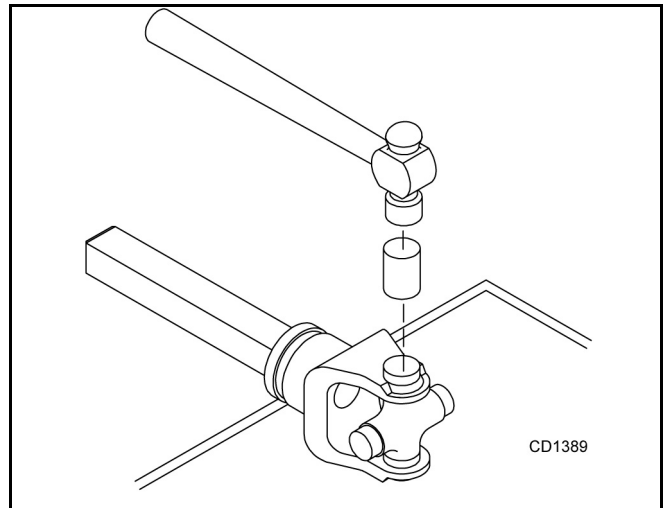

Figure 32.
3. Seat cups by placing a drift or socket (slightly smaller than the cup) on cup and rap with a hammer. See Figure 32. Install snap ring and repeat on opposite cup.